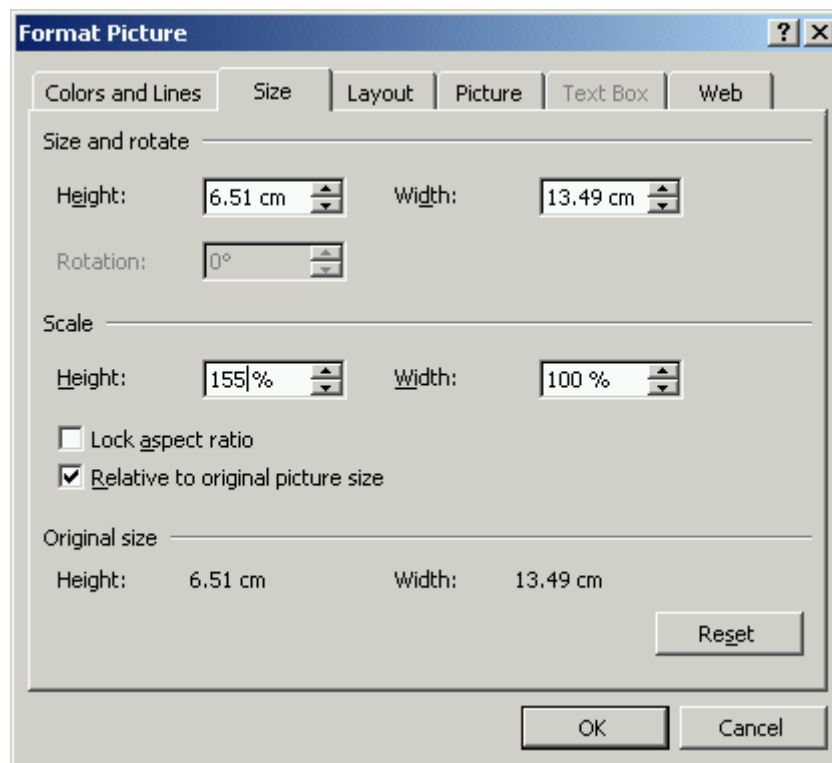

Figure 21 Resizing the image created using the “Save image” button.
2. Click on "Format Picture..." and the dialogue shown in figure 21 appears.